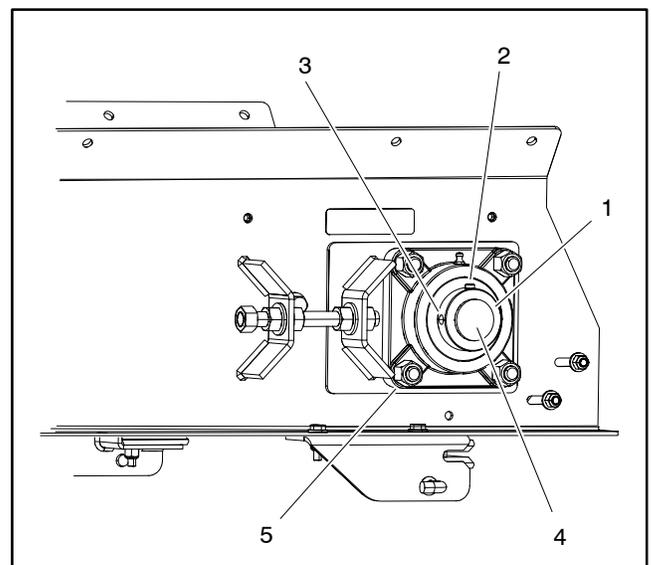

Figure 8
5. Loosen and remove locking collar from drive roller shaft (Fig. 8):
1. Slide bearing onto cap screws that are inserted into frame. Secure bearing to frame with four (4) lock nuts (item 3).
2. Install and tighten locking collar to drive roller shaft (Fig. 8):